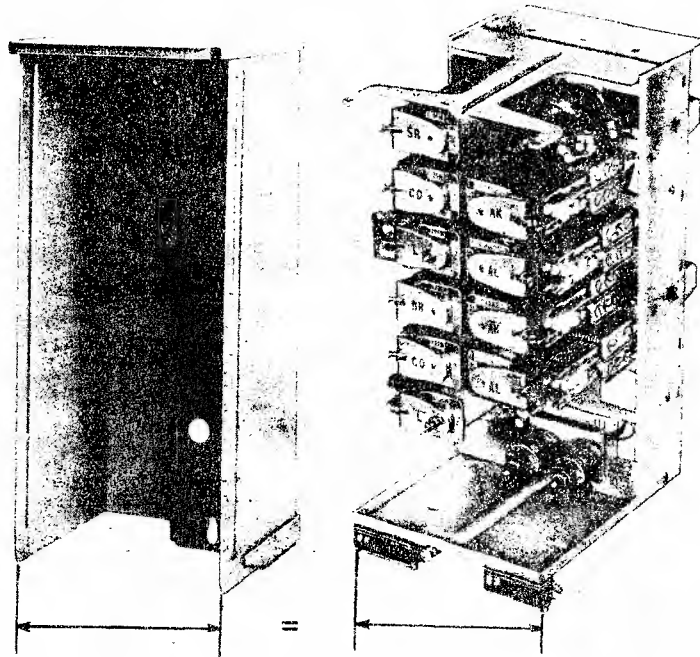

FIG. 1.
- (ii) Ensure that the distance between the inner edges of the cover has not been decreased or broadened and that the sides are straight and parallel (Fig. 1).